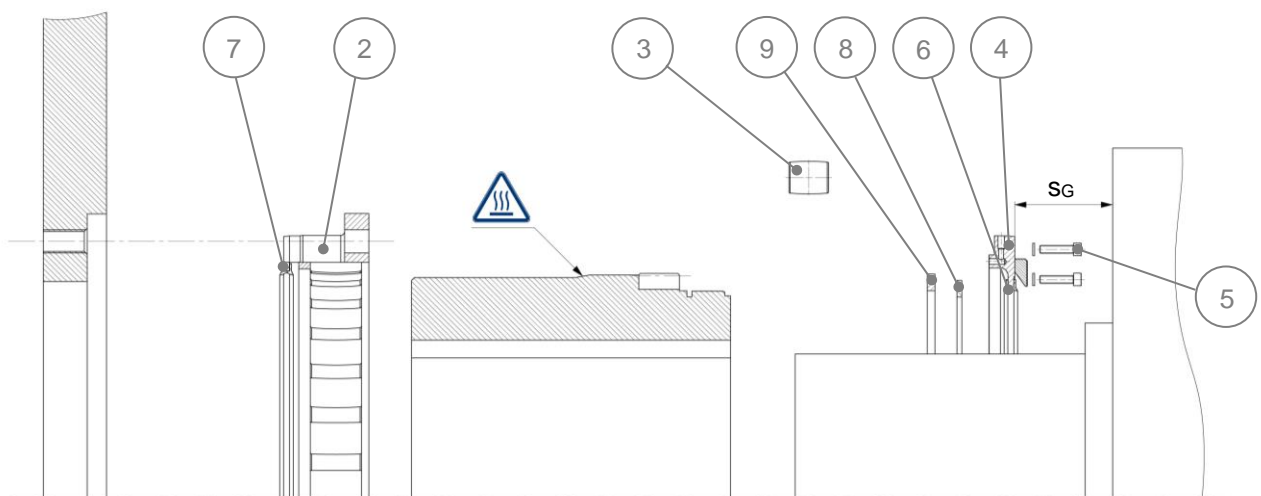

Fig. 5: Mounting the coupling
- Heat the hub (item 1) to a temperature suitable for assembly. The hub temperature must not exceed 320°C. Ensure uniform heating and avoid local overheating. If the hub is not heated sufficiently to ensure assembly, additional cooling of the shaft on the gear unit side is required.
- Before sliding the heated hub onto the gear shaft, do not forget to position the cover (item 4), the seal (item 6), the spiral circlip (item 8) and the thrust ring (item 9) over the gear shaft and hold them in such a way that there can be no contact with the heated hub when it is pushed on, Fig. 5.
- Note that once the hub has been placed on the shaft, the mounting space towards the gearbox is usually very limited. Therefore, check the distance s_G **in advance** with the aid of Fig. 5. If the value of s_G is smaller than value $s_{G,min}$ given in Table 1, the necessary mounting space for the cover screws (item 5) is not given. Insert the cover screws before sliding the hub into the cover.
- Do not jerk the heated hub onto the gear shaft to its desired position. Avoid contact between the heated hub and the seal (item 6).
- When assembling the housing (item 2), make sure that the seal (item 7) remains in position and is not twisted, Fig. 5.
- Place the barrel rollers (item 3) in their recesses and fix them with the thrust ring (item 9) and the assembly of the spiral circlip (item 8), Fig. 5.